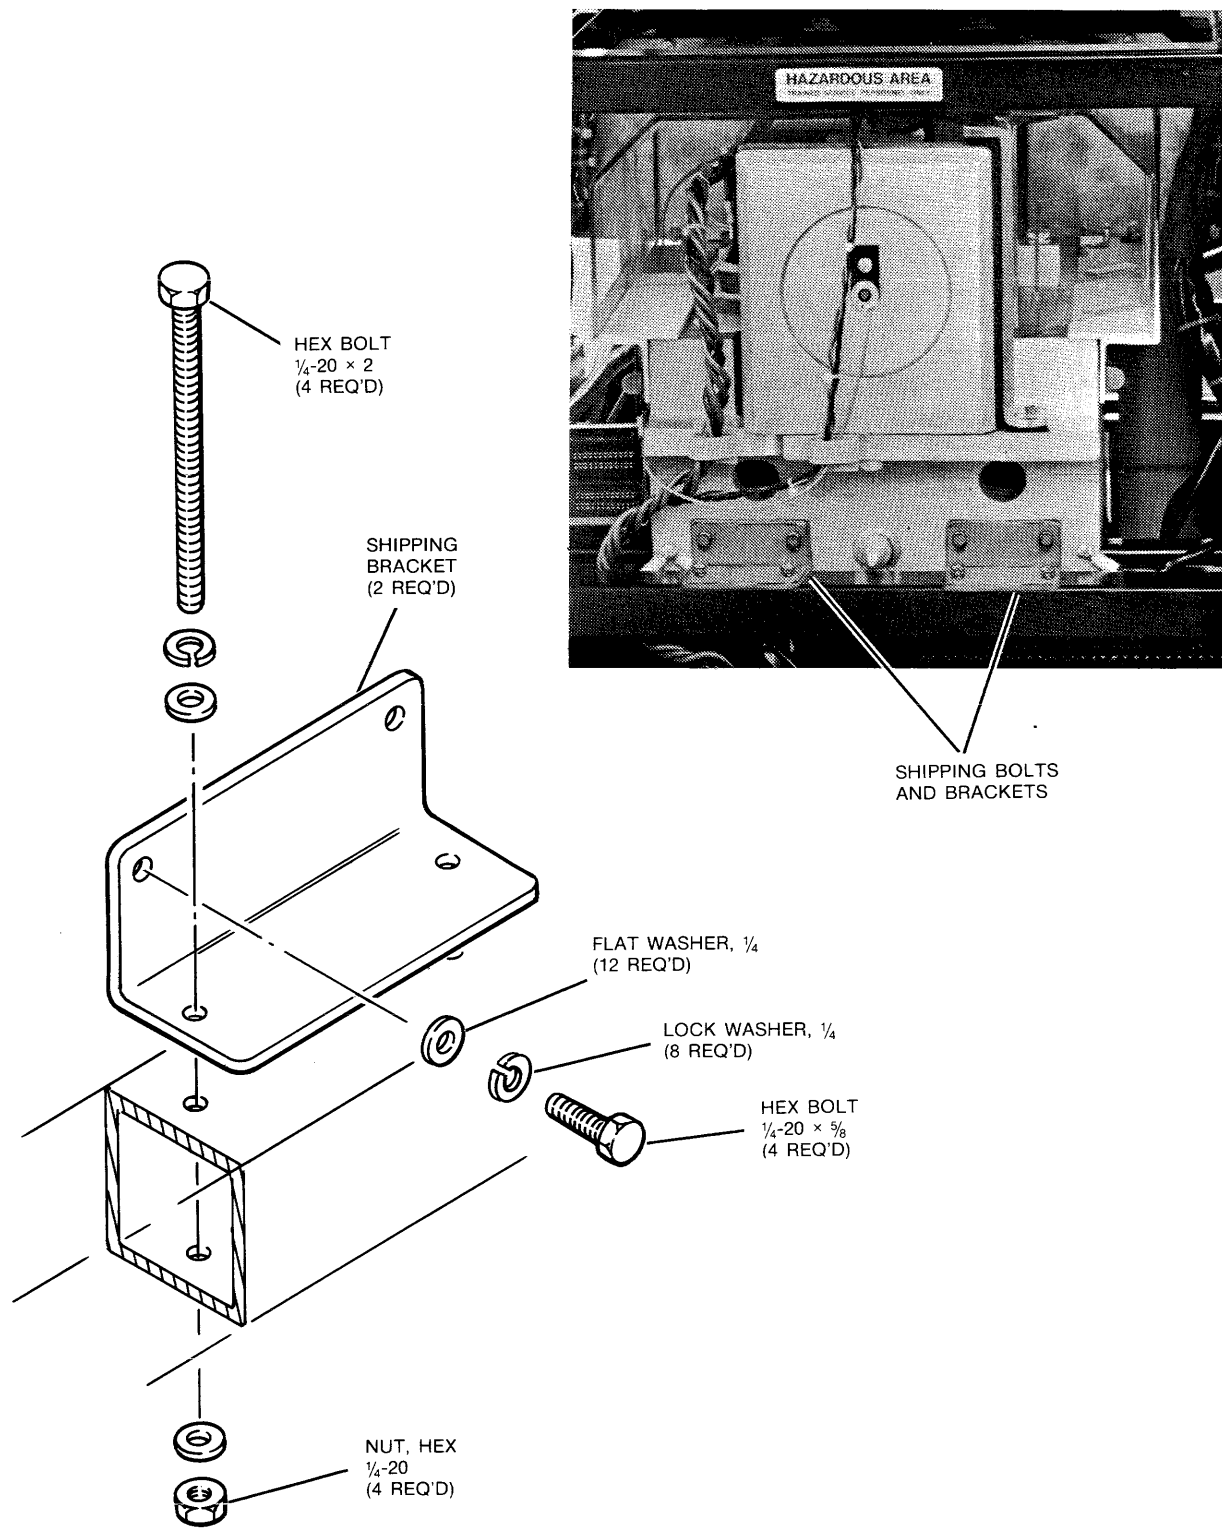

FIGURE 2-3. SHIPPING BRACKETS
1. Remove two brackets from rear of the deck plate and frame (see Figure 2-3).